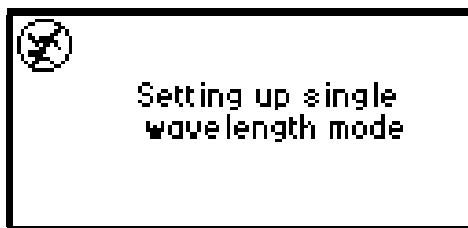

Figure 3-22 Wavelength Mode Change Message (Dual to Single Wavelength)
1. If the detector is in dual wavelength mode, press $\lambda\lambda\lambda$ from the Home screen to toggle from dual to single mode. A momentary message indicates the detector is switching to single wavelength operation (Figure 3-22).